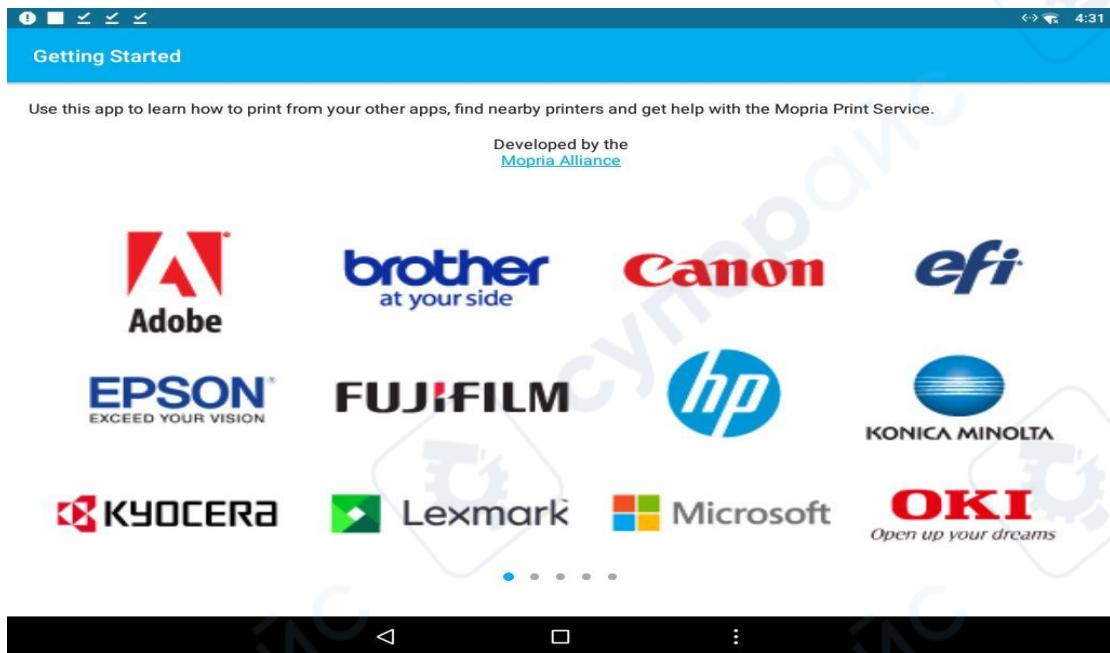
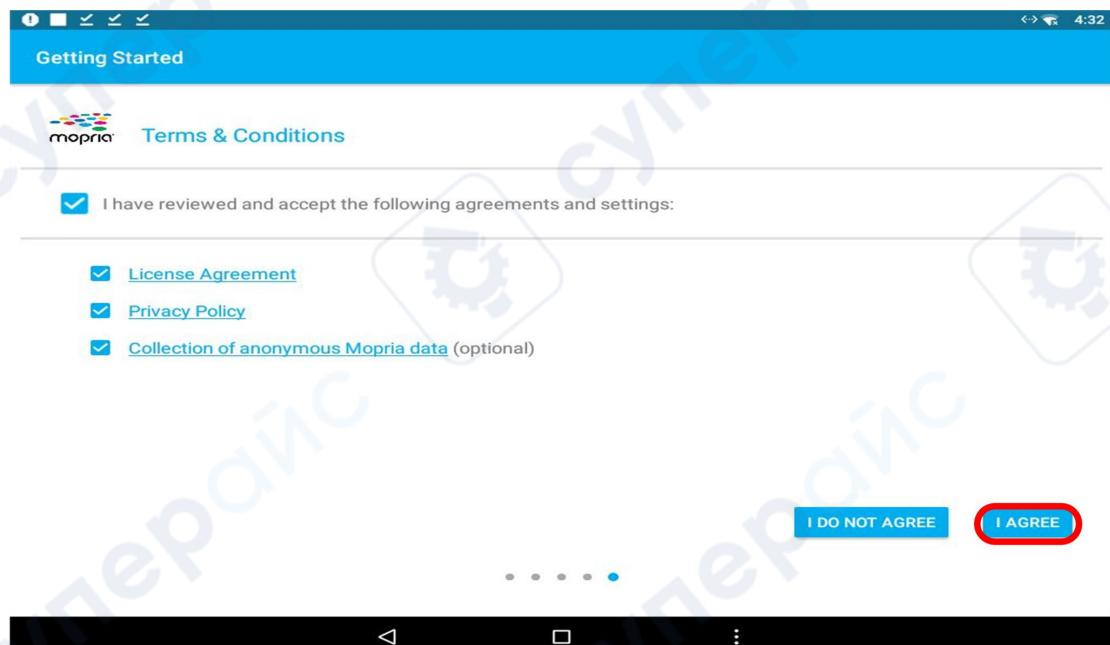

Figure 6
Figure 7
3、Open the installed printing software, as shown in Figure 6. Go to the last page and check "Agree" license agreement and privacy policy. Click "I AGREE" to start using the software, as shown in Figure 7.